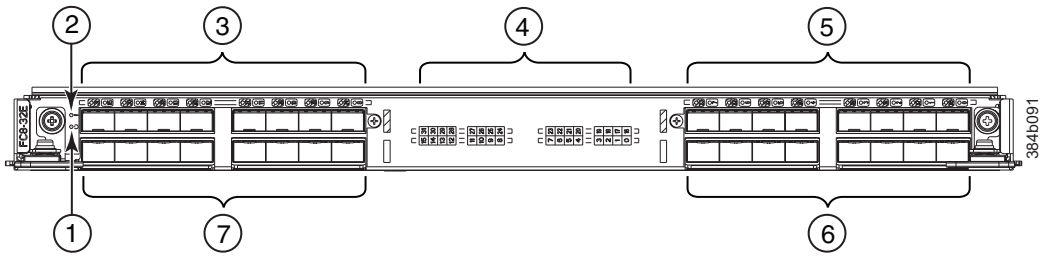

Figure 60. FC8-32E port blade
- Figure 60 on page 163 shows an FC8-32E port blade